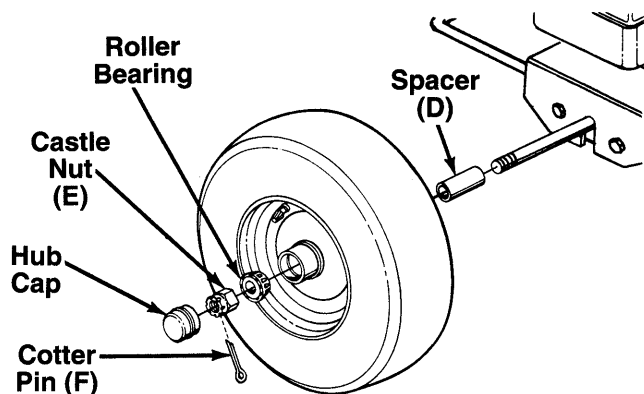

FIGURE 3.
3. Place one spacer (D) on each axle, then one wheel and a tapered roller bearing. See figure 3.